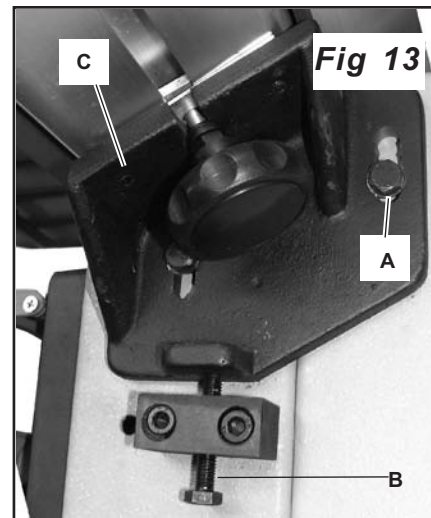

Fig 13
2. Loosen 4-M8x25 hex screws(A) , adjust the M8x40 hex screw(B) to adjust the sliding panel level(fig 13).
3. Then re-tighten 4-M8x25 hex screws (A).